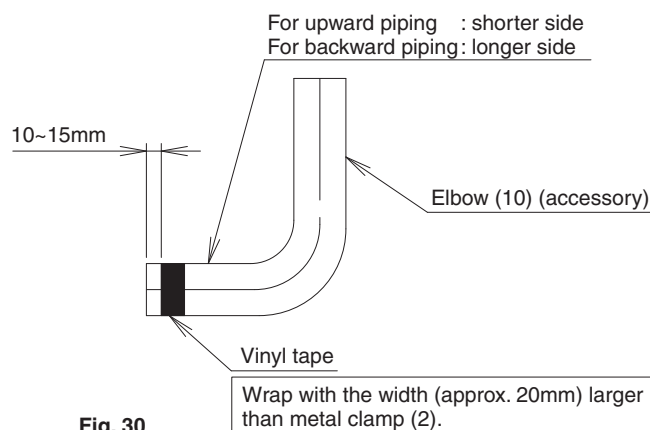

Fig. 30
- Make sure to use the drain hose (1), the elbow (10) and the sealing material (Large) (8) attached to the indoor unit as accessories.
1. To prevent the elbow from getting damaged by the metal clamp (2) for upward and backward piping, wrap the vinyl tape around the elbow 2 to 3 times so that the tape covers more than the width of metal clamp (2) leaving 10 - 15 mm from the tip of the elbow (10) without wrapping as shown in Fig. 30.